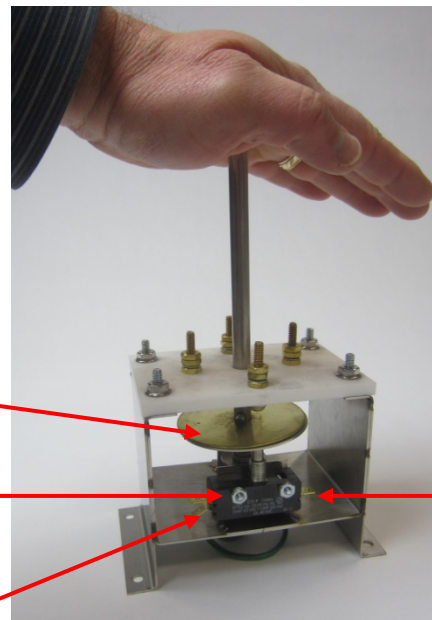

Figure 4-24-2
3. Push in the Plunger Safety Switch and verify that the Grounding Disc is pushing the micro switch down until you can hear the click of the switch engaging (Refer to Figure 4-24-2). If it is not repair as necessary. If it is working properly proceed to step #4.
1. Push in the Plunger Safety Switch, and using a continuity tester test for continuity between the “Common” (COM) and the “Normally Open” (NO) terminals of the micro switch (Refer to Figure 4-24-2). If there is continuity the micro switch is good. If there is not continuity the micro switch must be replaced.
4. By hand, push in Plunger Safety Switch and hold (Refer to Figure 4-24-2). Now measure voltage from ground on the Cell to the 5KV volt connection point. Voltage should be between 4,700 and 5,500 volts DC. If proper voltage is not obtained it indicates that the Cell Plates are shorting out. Proceed to “Shorting Cell Plates” instructions on page 4-29.